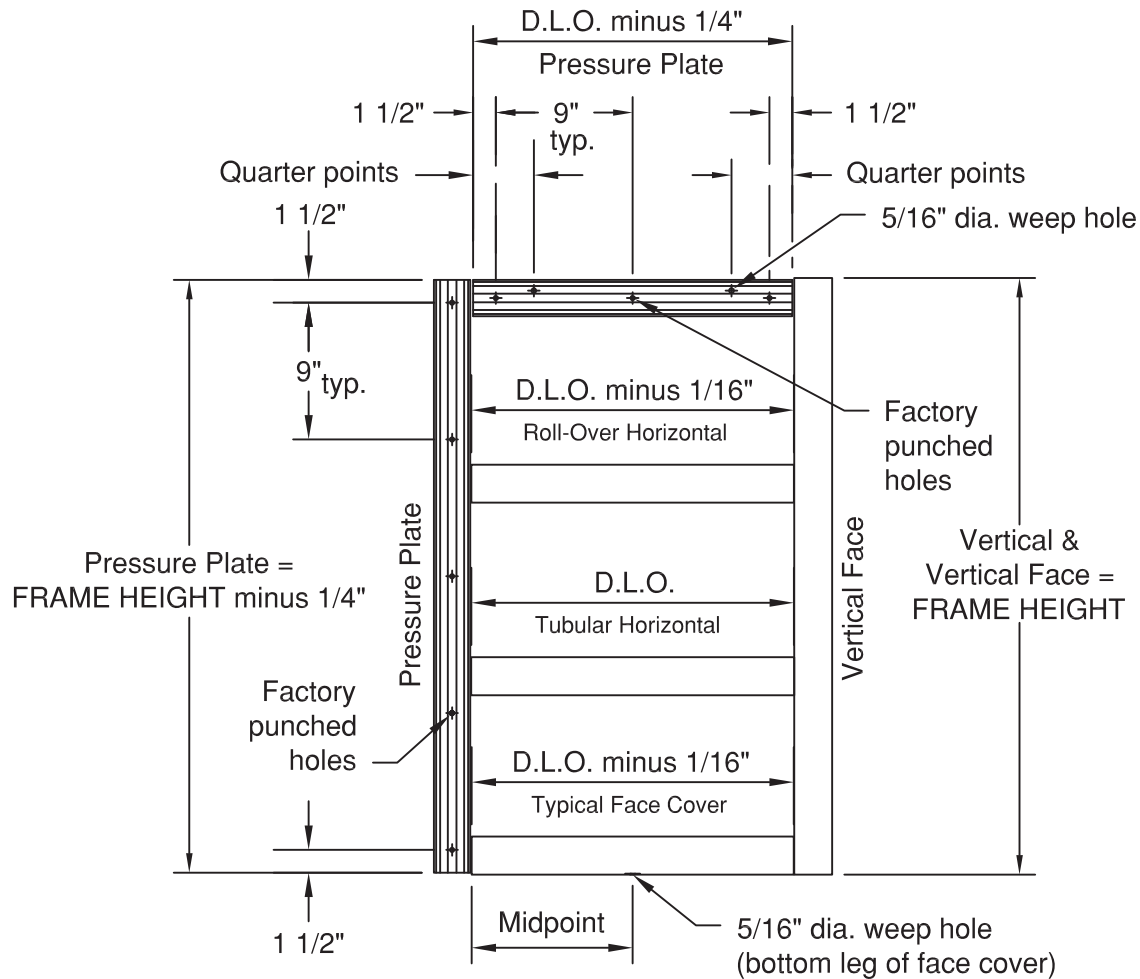

Figure 1
1.2 Cut material to size. **SEE FIGURE 1** for guide.